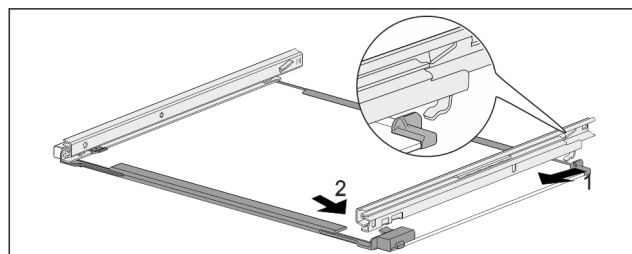

Fig. 203 Glass shelf with rails
- ▶ Hook in rail at the back. Fig. 203 (1)
- ▶ Hook in rail at the front. Fig. 203 (2)